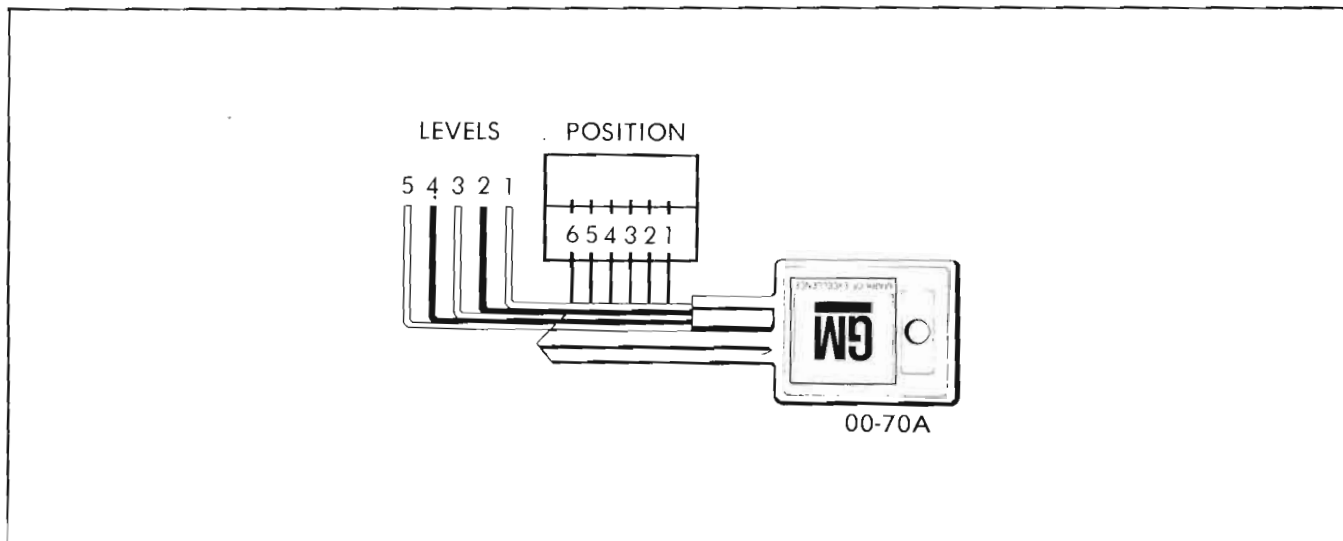

Figure 00-1 - Key Code Diagram
Key code numbers are stamped on the "knock-out" plug in the key head. After the code has been recorded by the owner to facilitate replacements or duplications of a key, the plugs should be knocked out of the key heads. If key code numbers are not available from records or from the "knock-out" plug, the code can be determined by laying the key on the diagram in Figure 00-1, or from the ignition lock cylinder housing and glove compartment lock assemblies themselves. The station wagon ignition lock cylinder will be marked with the key code number for the tailgate lock cylinder, the door lock cylinders and ignition lock cylinder.
For "A" type lock cylinders assemblies, the key code number is stamped on the ignition lock cylinder housing; for "B" type lock cylinder assemblies, the number is stamped on the glove compartment (marked on the tumbler carrying plug) lock cylinder. From these numbers the lock combination can be determined by use of a code list for cutting new keys for coding a replacement service lock cylinder assembly. Door lock, rear compartment, and tailgate lock cylinders coded by the car division do not have key code numbers stamped on them; therefore, codes may be determined either from a ignition or glove compartment lock cylinder of the same car which will have the same lock tumblers, or from the key code diagram. See Figure 00-1.
1. Lay the key on the Key Code Diagram, Figure 00-1, with the key outlined by the diagram as accurately as possible.